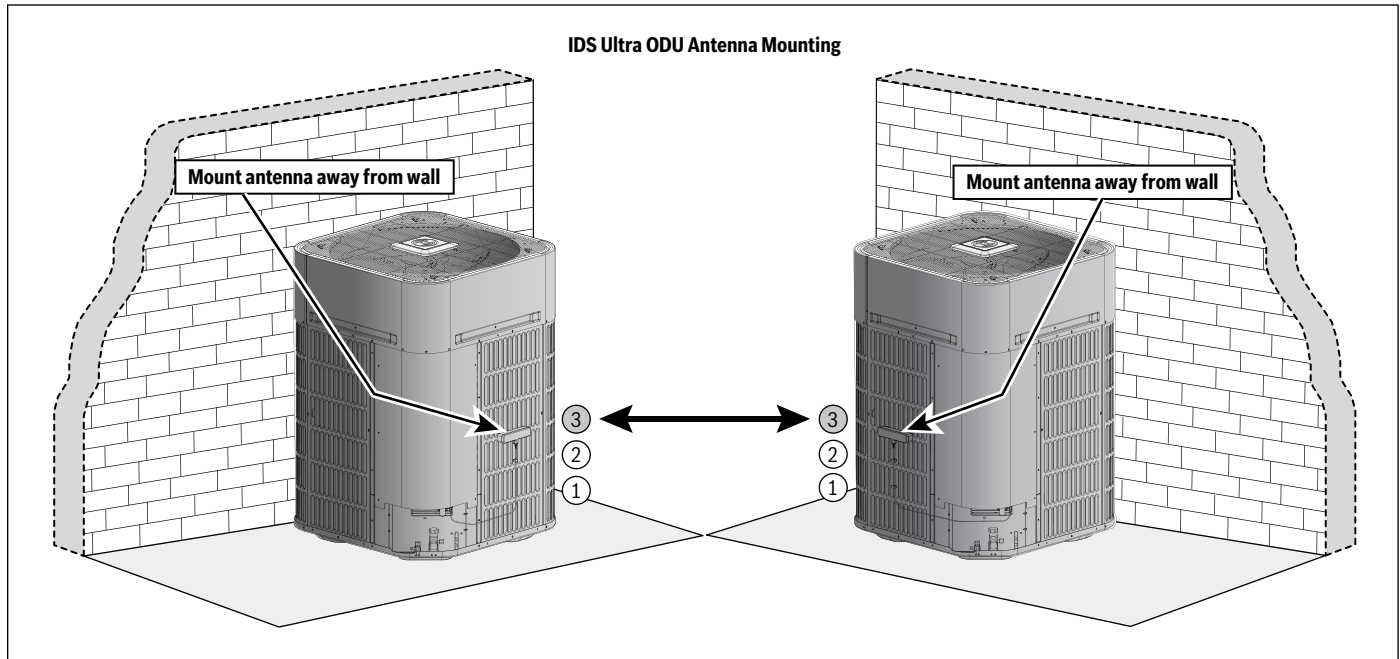
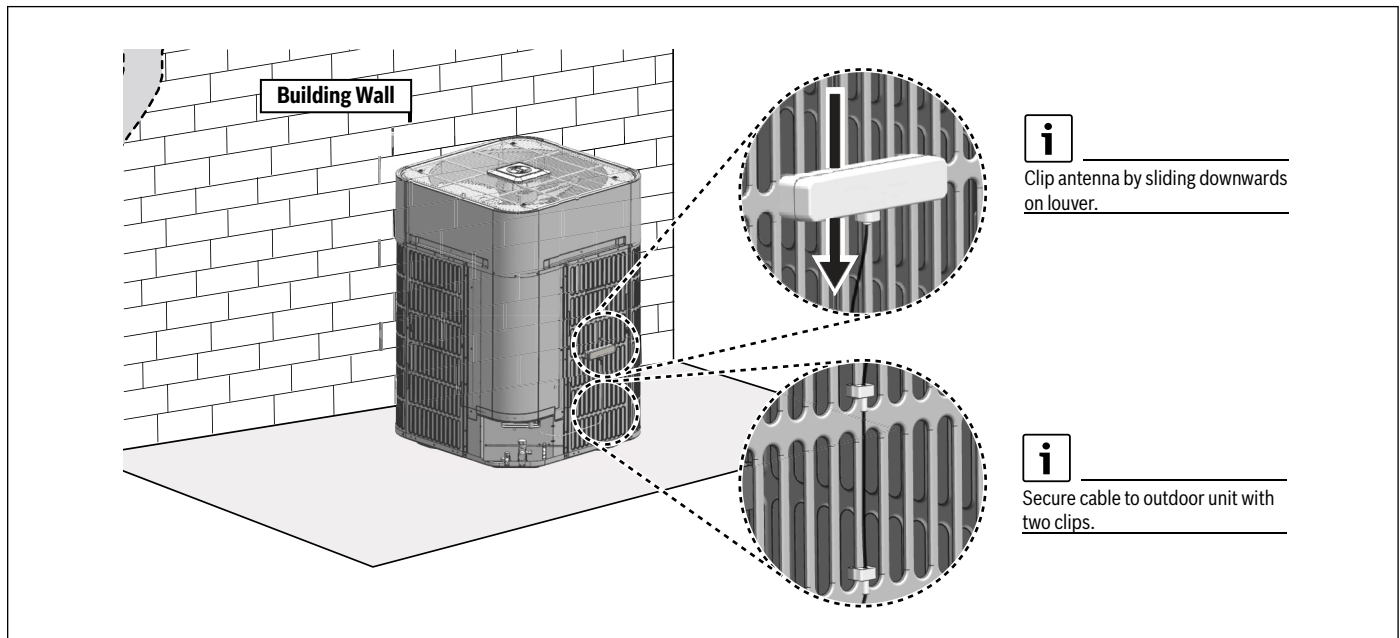

Figure 13
Figure 14
1. Mount antenna on top of louver 3 (Refer to Figure 13) on the left or right side of the unit depending on which is furthest from a wall. Slide the antenna downwards to mount the antenna and secure the cable using the 2 movable clips on the cable. Refer to Figure 14.